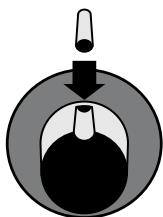

Figure C1
1. Place the crank pin into the slot on the bottom bracket axle (Figure C1).